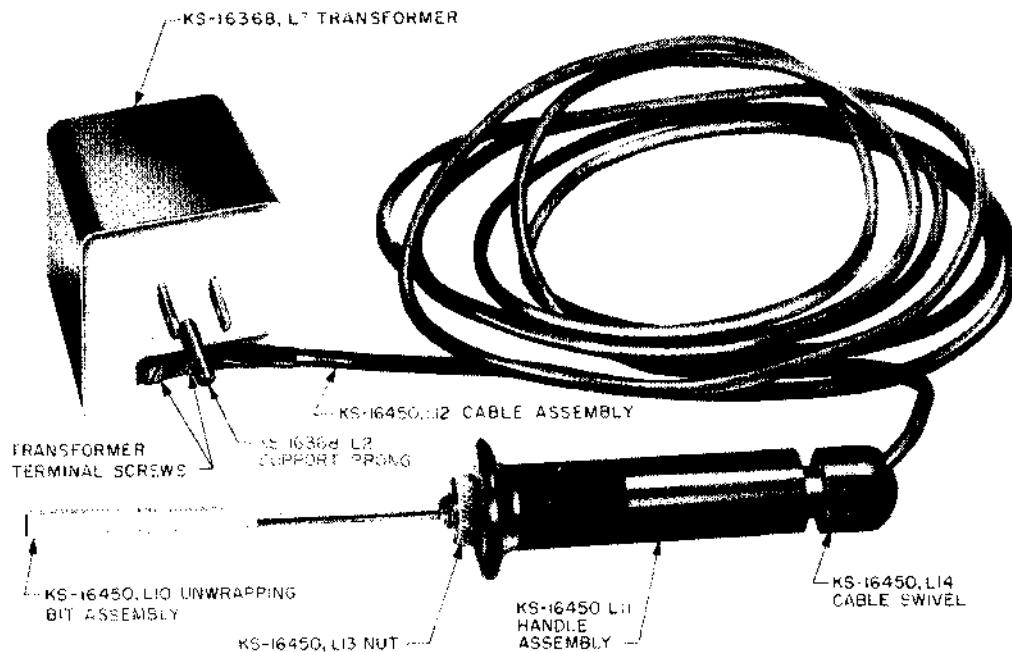

Fig. 1—KS-16450 L1 Wire Unwrapping Tool
1.02 This section is reissued to revise Fig. 1 by showing a KS-16368 L3 transformer instead of a L1 and to revise the List of Tools.
3.02 *Handle Assembly*—Fig. 1 and 2
- (1) Remove the handle-locking nut using the B combination pliers, if necessary, to loosen the nut. While holding the cable swivel, carefully pull the handle towards the shank and remove the handle assembly.
- (2) Mount the new handle assembly and finger tighten the locking nut.
3.03 *Unwrapping-Bit Assembly*—Fig. 1 and 2
3.04 *Cable Assembly*—Fig. 1 and 2
- (2) Remove the handle as covered in 3.02(1).
- (3) Using the KS-14440 L17 soldering copper and B-long-nose pliers, disconnect the cable-assembly leads from the swivel case ground and stationary contact terminal.
- (4) Using the 3-inch C screwdriver, lift the cable grips that secure the cable to the swivel case just enough to release the cable. Remove the cable-swivel mounting screw with the screwdriver and remove the cable swivel and cable assembly. Then pull the cable out of the cable swivel.
- (5) Referring to Fig. 1, connect the new cable assembly to the transformer, connecting the lead with the terminal lug to the terminal on the right. Securely tighten the screws.
3.05 Transformer—Fig. 1